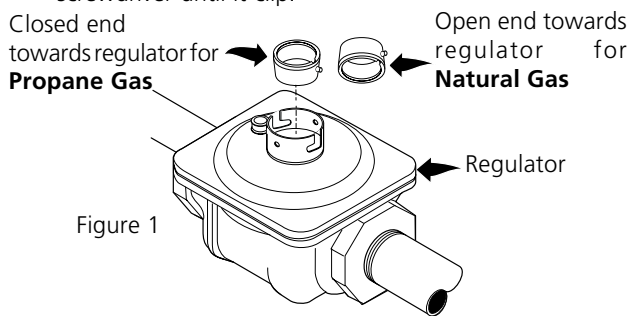

Figure 1
- Turn the cap to get **NAT** inscription visible and replace it in the pressure regulator (See Figure 1).